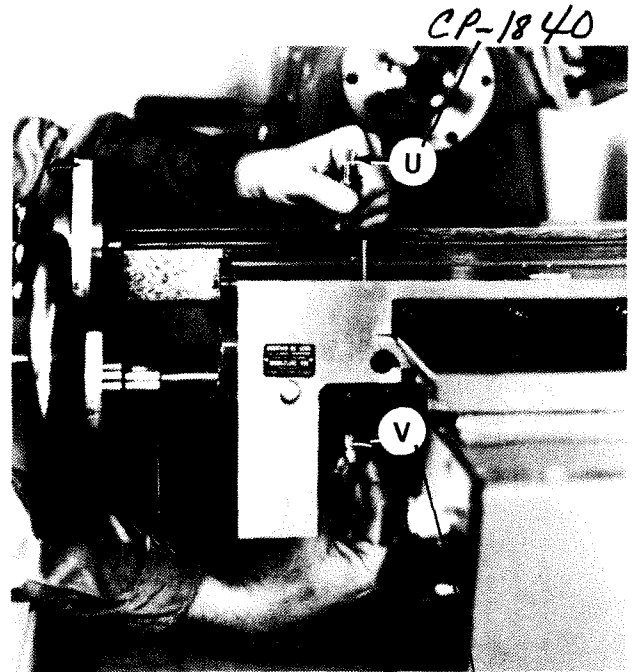

Figure 1.37 - Lock Bolt and Plug
3. Unscrew bolt "U", from lock plug "V", Figure 1.37 .
1. Locate plug "V", Figure 1.37, in the socket in the bottom of the carriage with the flat side of the plug facing toward the bed way (down).
7. Tighten or loosen lock bolt "U", Figure 1.37, to correct handle orientation.